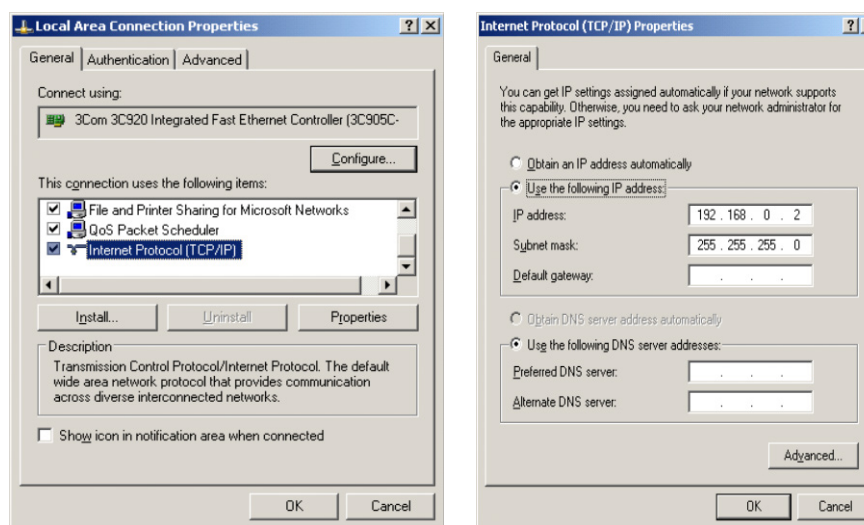

Figure B-6: LAN Connection Properties (left) and Internet Protocol Properties (right) Dialogs
7. In the **Properties** field (Figure B-6), select **Internet Protocol (TCP/IP)** and click on the **Properties** button. The **Internet Protocol (TCP/IP) Properties** window now appears (see Figure B-6, right).